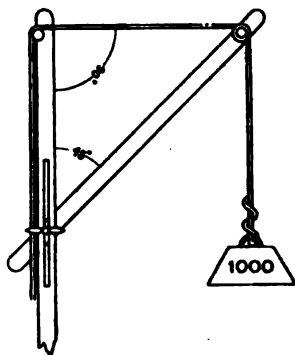

FIG. 70.—A crane with horizontal tie.
5. A crane is set up with the tie horizontal. (See Fig. 70.) If 1000 lbs. is to be lifted, find the tie stress and the boom stress if the boom angle is 30 degrees? 45 degrees? 60 degrees?